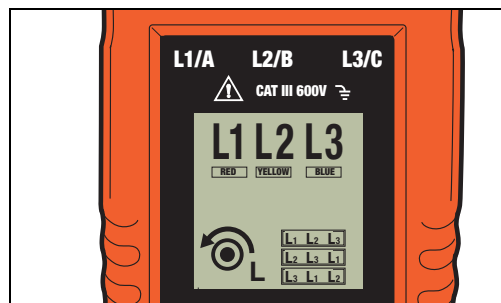

Figure 19. Extech Model 480400 Phase Sequence Tester Confirms Proper Pump Rotation
4. Apply power to the circuit (230 or 460 Vac) and note the reading on the Phase Sequence Tester. Proper pump rotation will be indicated by the counterclockwise rotation icon on the Phase Sequence Tester screen (see Figure 19).